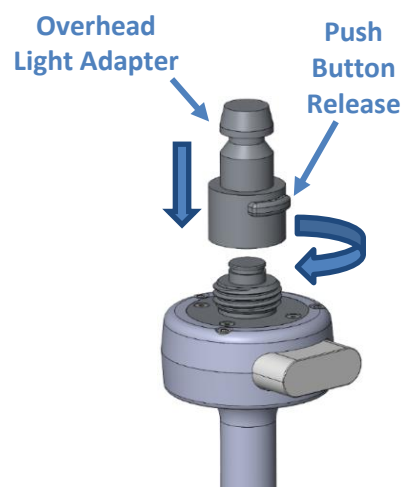

Figure 2.
- 3) Place the correct adapter on the protruding stem of the SurgiLight and begin threading the adapter clockwise, as shown in Figure 2. Resistance will be felt as the push button release of the adapter is drawn inwards. Keep threading the adapter clockwise until the bottom of the adapter meets the base of the SurgiLight.